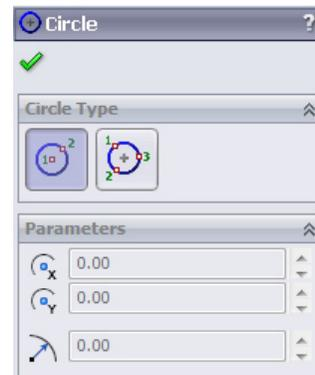

Figure 3-16 The Circle PropertyManager
9. Choose the **Circle** tool from the **Circle** flyout in the **Sketch CommandManager**; the **Circle PropertyManager** is displayed, as shown in Figure 3-16.